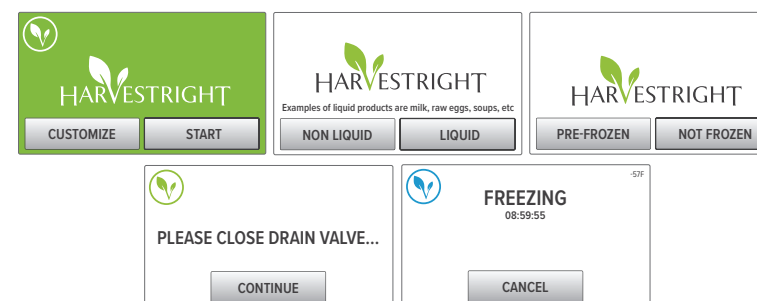

FIGURE 1
5. Connect the large hose to the vacuum pump and to the freeze dryer, and tighten snugly. (See Figure 1). You may use pliers, vice grips, or channel locks, as required. Do not add any additional Teflon tape, or any type of adhesive, when installing the vacuum hose. Doing this may create a vacuum leak.